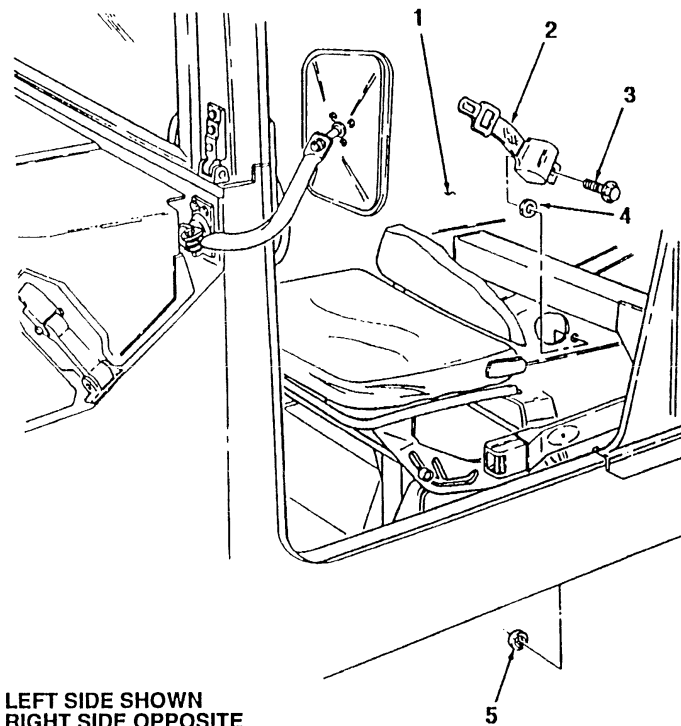

FIGURE 3-15
1. Remove bolt (3), washer (4), strux nut (5), and seatbelt (2) from tunnel (1). (see figure 3-15)